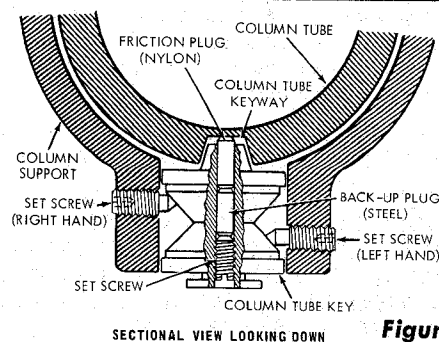

Figure 61
NOTE: Before attempting to adjust the column tube key, the function of this adjustment should be understood. Figure 61 shows a sectional view through the column tube support (looking downward) at the column tube key location. By loosening the left-hand set screw and tightening the right-hand set screw the column tube key will be forced tighter into the column tube keyway. Conversely, loosening the right-hand set screw and tightening the left-hand set screw, will retract the column key out of the column tube keyway. The set screw in outer end of column tube key must be loosened while adjustment is being made and tightened with medium firmness after the adjustment has been completed. This screw applies pressure on the nylon friction plug and provides smoother elevation movement of column tube. This set screw should be tightened to provide maximum smoothness of operation. Right and left positions are given with operator facing the saw — standing in front of saw table.
- (1) Loosen the set screw in center of column tube key. (See figure 61.)
- (2) Loosen the left-hand set screw 1/4 turn.
- (3) Tighten the right-hand set screw.
- (4) Tighten left-hand set screw.
- (5) Rotate the elevation crank to raise and lower the radial arm. If too tight, loosen the right-hand set screw slightly and check again for smooth operation. When correct, tighten the left-hand set screw.
- (6) Tighten the set screw in center of column tube key (figure 61) until smoothest operation is obtained.